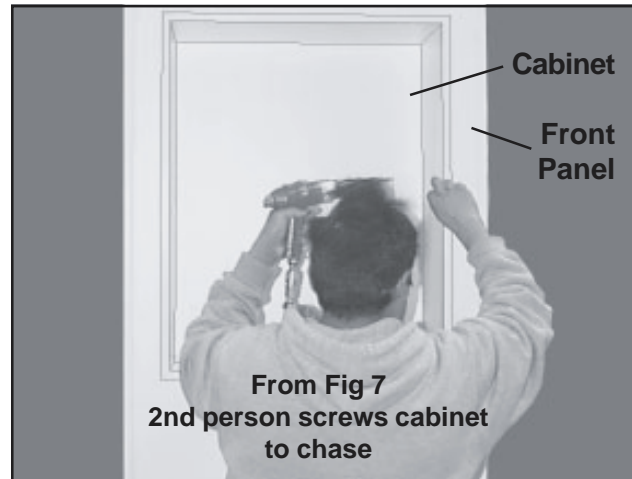

Figure 8. Mounting the Cabinet Into the Chase
2. A second person secures the cabinet to the front panel with ten screws (three on each side; two each on the top and bottom) (Figures 8 & 9).